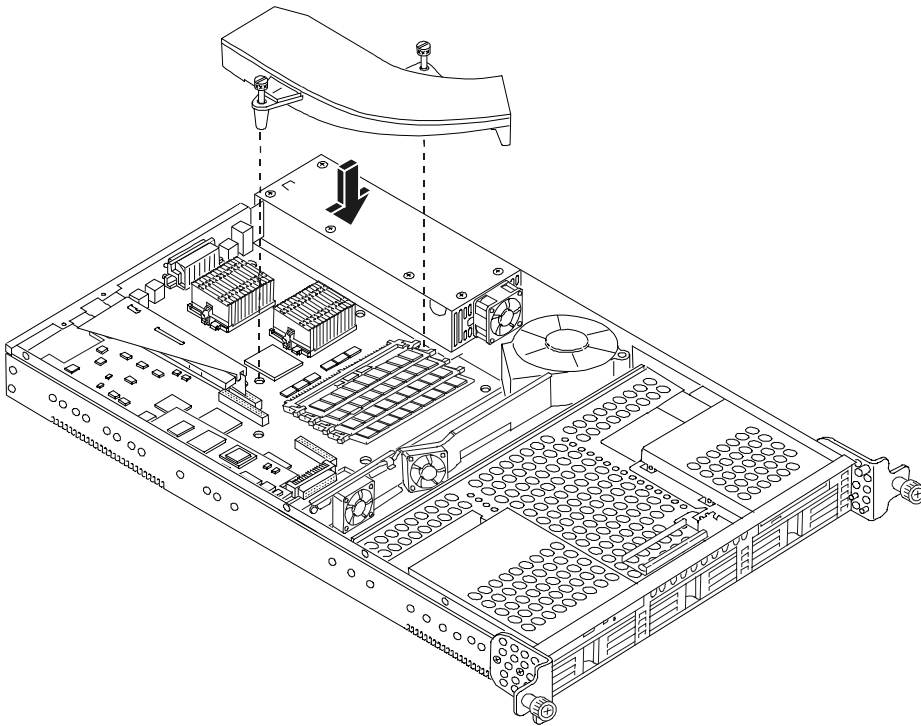

Figure 6-7. Replacing the Air Duct
5. Replace the air duct on the system board and tighten the captive screws. See Figure 6-7.